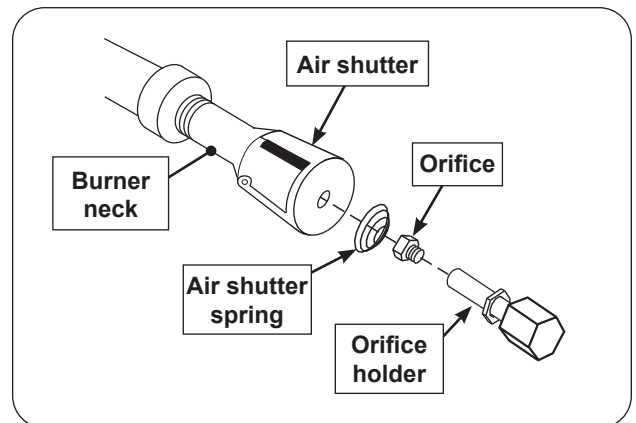

Fig. 41-3 Burner removal diagram
4. To re-install, position the air shutter spring and air shutter over the orifice holder fitting, between the burner and the heat shield, in the order and position shown in Fig. 41-3. Do for both burner necks.